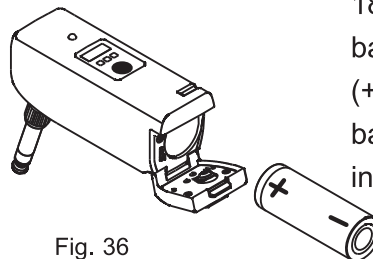

Fig. 36
(B) Install a fully-charged 18500 rechargeable battery with positive (+) polarity end of battery towards inside, Fig. 36.